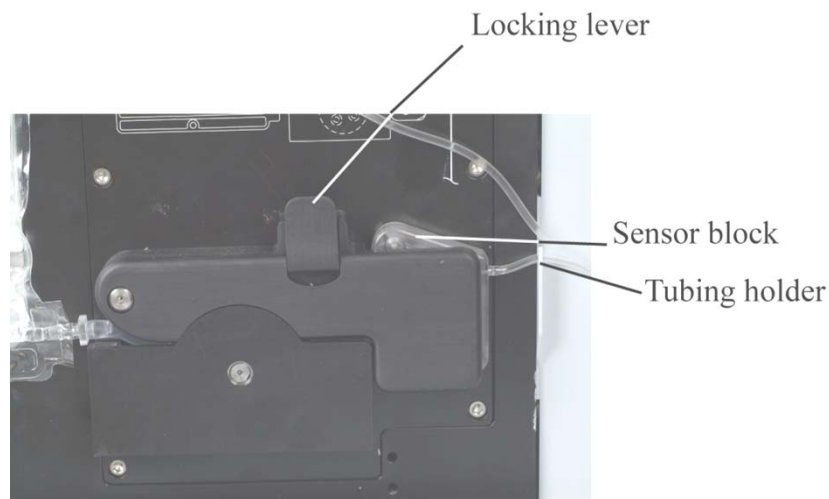

Figure 2-10. Coolant System with Pump Closed
9). Push down the pump tubing clamp until it snaps into position (*figure 2-10*).